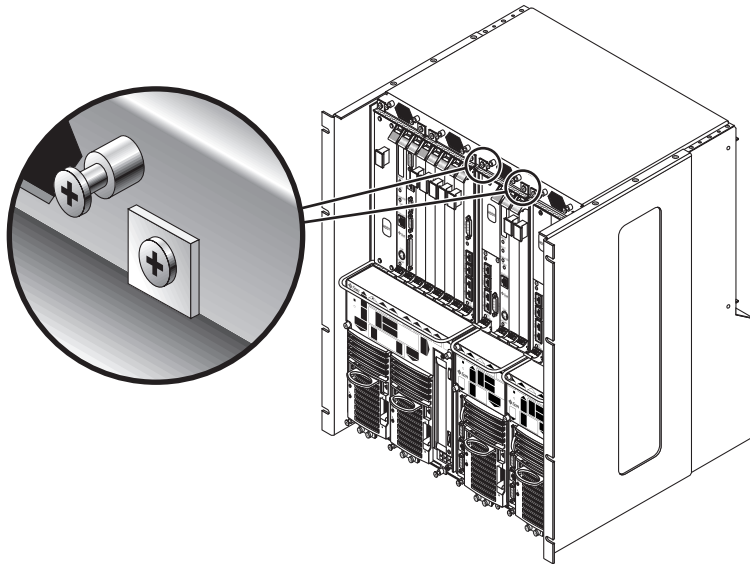

FIGURE 4-5 Tightening the Screws at the Top of a Netra CT 410 Server
- If you are installing a Netra CT 410 server, tighten the *two* black captive screws at the top of the server (FIGURE 4-5).